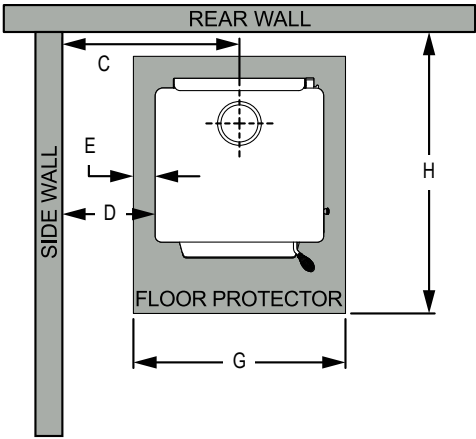
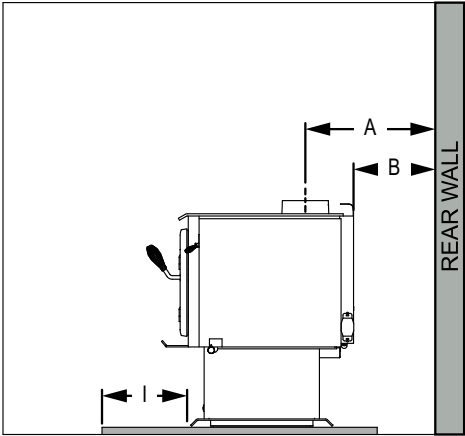

Figure 9.1
Figure 9.2
- The minimum Floor Protector sizes are specified in the clearance chart, see **Figure 9.1** and **Figure 9.2 on page 9**.
1. If a separate floor protector is being used position now. Place the firebox on the floor protector to suit the minimum installation clearances (**Figures 9.1 and Figure 9.2 on page 9**).